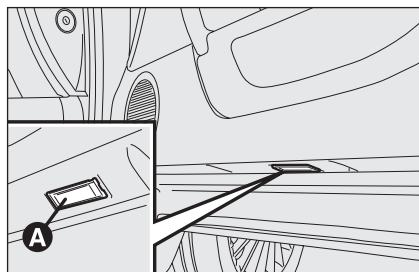
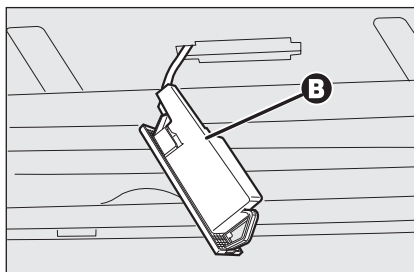

fig. 44
fig. 45
- ☐ open the door and remove lens **A-fig. 44** levering in the point shown by the arrow;
- ☐ raise protection **B-fig. 45** and replace the snap-fitted bulb;
- ☐ close protection **B-fig. 45** on light unit **A-fig. 44**;